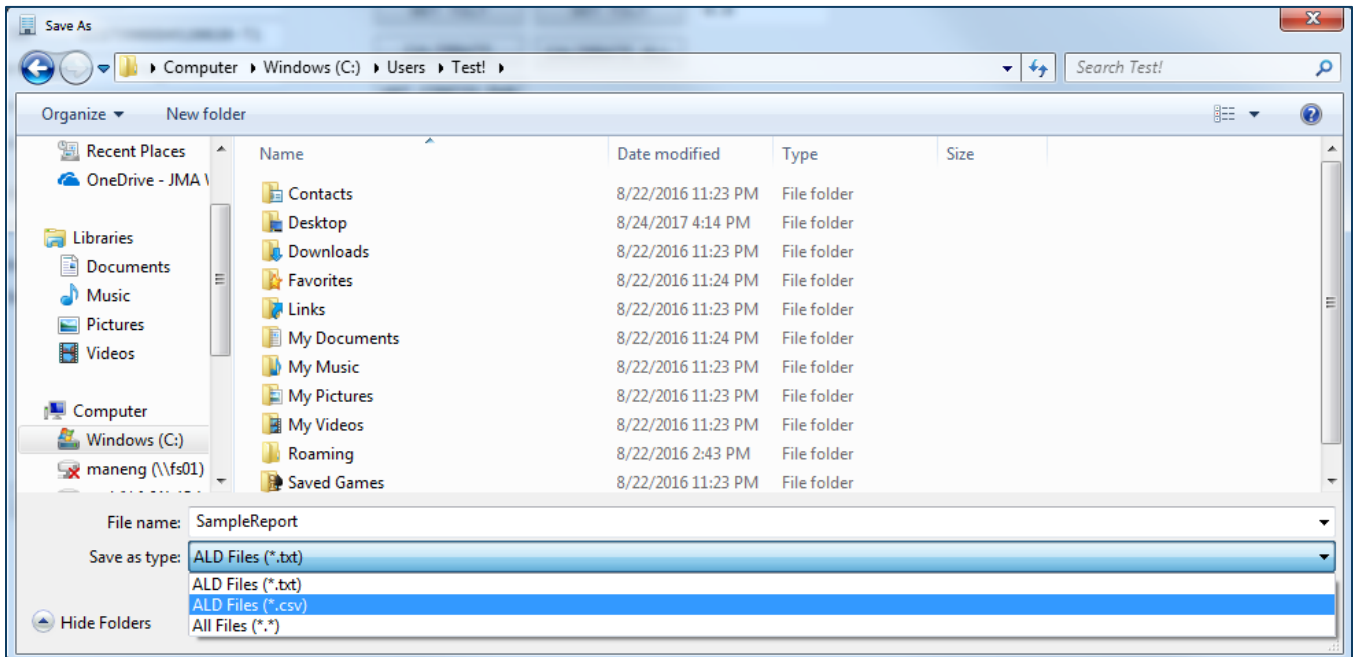

Fig. 19 – Save as .txt or .csv
14. This icon is for saving the report in .txt or .csv formats for the devices from the ALD list. See *Figure 19*.